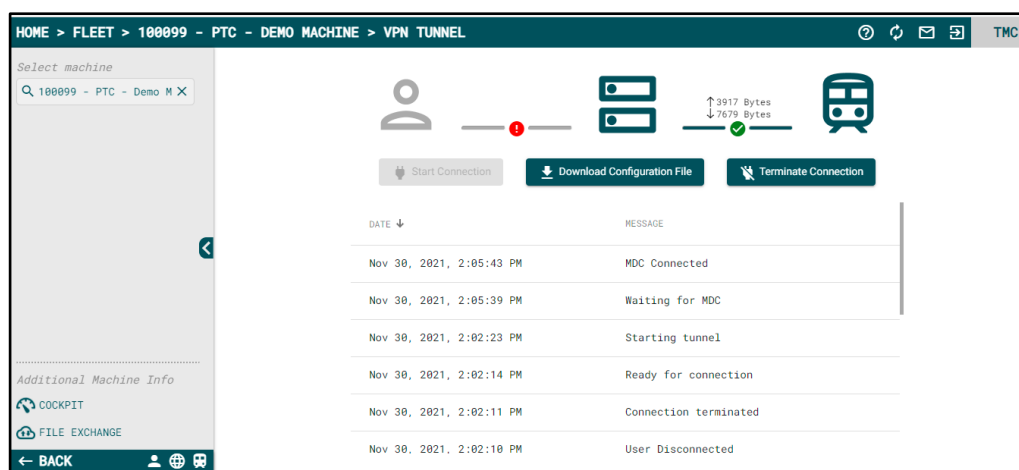

Figure 5. Download Configuration File
3. **"Download Configuration File"** will be active as shown in **Figure 5**.